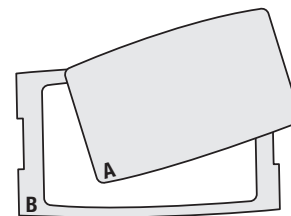

Fig. 7a
1. Remove and discard center support (A) from filter surround gasket (B) (Fig. 7a).